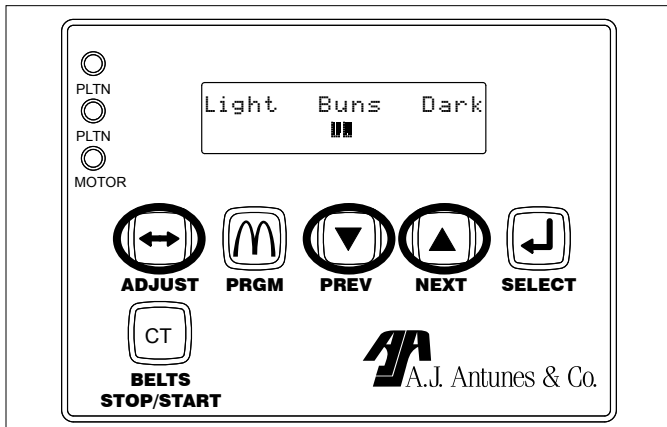

Figure 6. Adjusting Toasting Quality
1. At the back Control Panel, press and release the **ADJ** button (Figure 6).
2. Use the **PREV** and **NEXT** buttons to adjust the toasting quality to lighter or darker respectively (Figure 6).